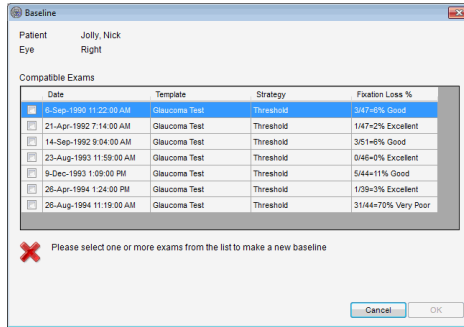

Figure 38 Defining a baseline
2. **Manually create a baseline exam**; this will display the Baseline dialog box, allowing you to select the desired exams from a list of compatible exams as per Figure 38.